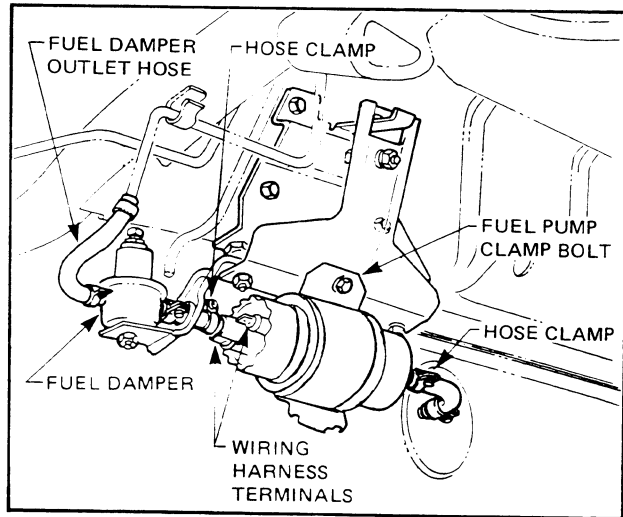

Figure 6C-88
1. Install fuel pressure gauge and hose (Part no. SD28018) to schrader valve fitting at front of fuel rail (Fig. 6C-89). Hose has built in valve core depressor.